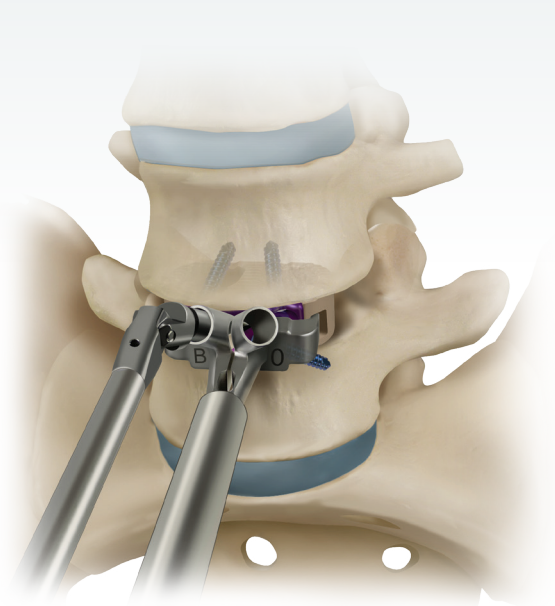

Figure 15:
- Prepare the remaining two screw holes through drill guide B using the drill or awl and insert the screws as described on page 10 (**Figure 15**).